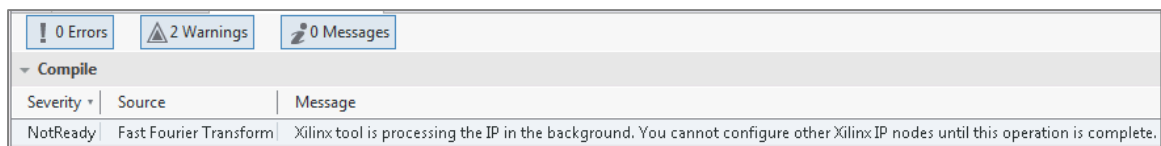

Figure 5 - "Not Ready" warning because Xilinx tool is processing the IP in the background
7. Wait until the "Not Ready" warning, as shown in Figure 5, has disappeared.